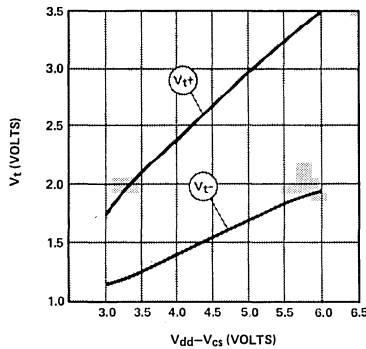

Figure 1. Typical Schmitt Trigger Input Thresholds
2. In general, for any V_{DD} between the allowable limits (+3V to +6V), $V_{il} = 0.3V_{DD}$ and $V_{ih} = 0.7V_{DD}$; V_{t+} and V_{t-} vary as Fig 1; $V_{oh} = V_{DD} - 0.5\text{V}$ and $V_{ol} = V_{SS} + 0.2\text{V}$ @ (\pm) 1.6 ma respectively.